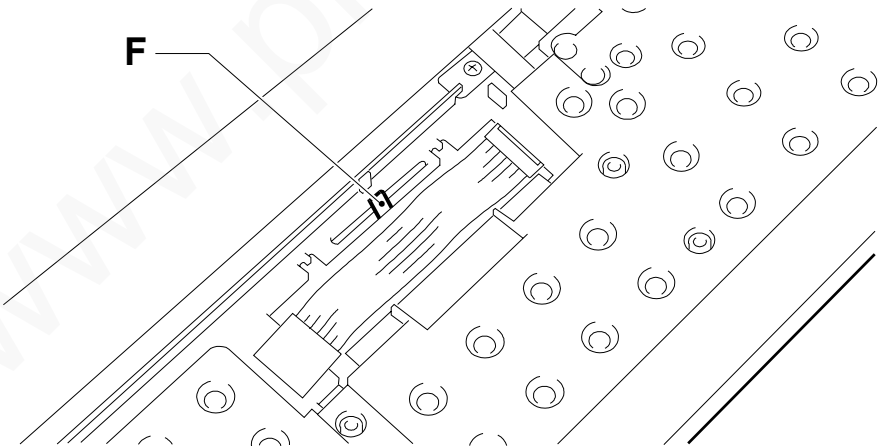

Fig. 7-56
- 2) Release the display from latch F and extracted it from its guide (Fig. 7-56):